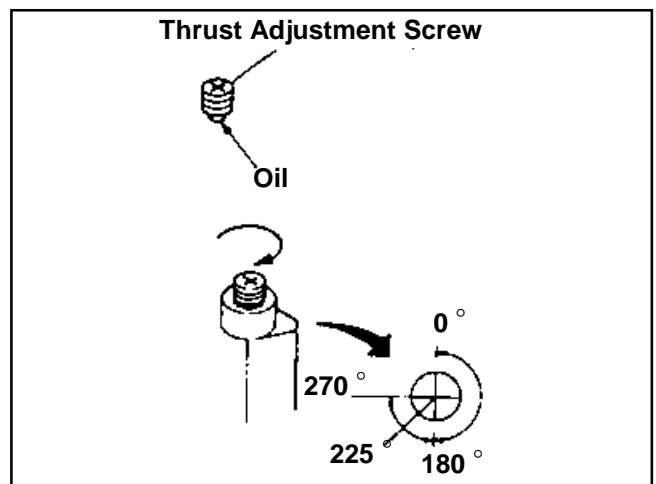

Figure 5-13-2
5. Turn the Thrust Adjustment Screw to the other angle of 270 degrees from 180 degrees (about 225 degrees) clockwise as shown in Figure 5-13-2.